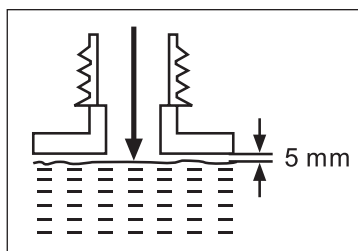

Fig. 8
6. Unscrew and remove the fuel tank cap (12).
7. Fill correctly mixed fuel/oil into the tank using a fuel funnel fitted with a filter to avoid debris entering the tank. Do not overfill. Leave a minimum 5 mm of space between the top of the fuel and the inside edge of the tank (11) to allow for expansion (Fig. 8).
9. Wipe up spilled fuel with a soft cloth and refit the fuel tank cap (12).